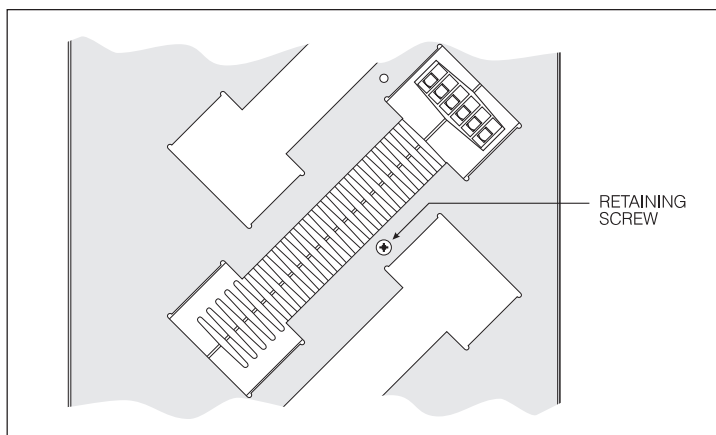

Fig. 1-1: Location of retaining screw.
5. Remove the locking screw (if fitted) from the left-hand side of the module (see Fig.1-1).
2. If required, secure the module to the *STACKER* by inserting a suitable retaining screw on the left-hand side (see Fig.1-1).